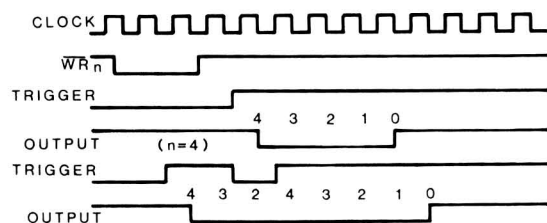

Figure 14-6. Timing Mode 1
**Programmable One-Shot (Mode 1)** — Figure 14-6 illustrates Mode 1. In this mode, the counter acts like a programmable one-shot. The output will go low the following clock cycle after the gate is asserted high (acting as a trigger). The output will remain low until the counter has decremented to 0.